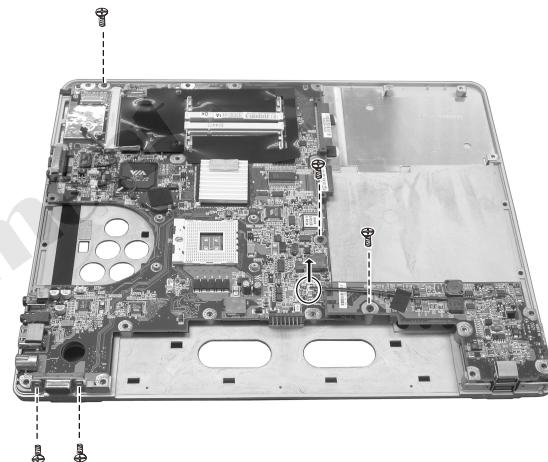

Figure 2-28 Lift the system board
5. Disconnect the right speaker's cable, then remove the five screws fastening the system board. And lift the system board. (Figure 2-28)